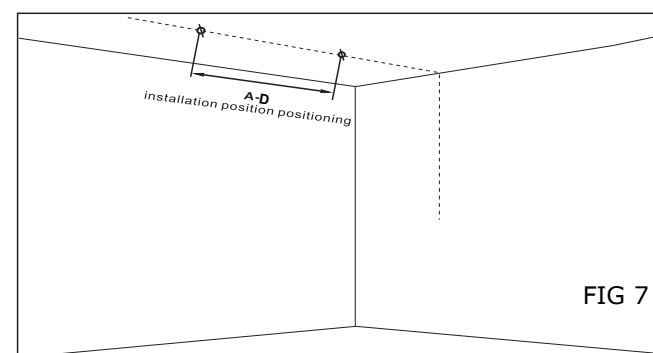

FIG 7
2. In the track installation area, using the tool mark a straight line and the hole position for installing the track (Fig 7).